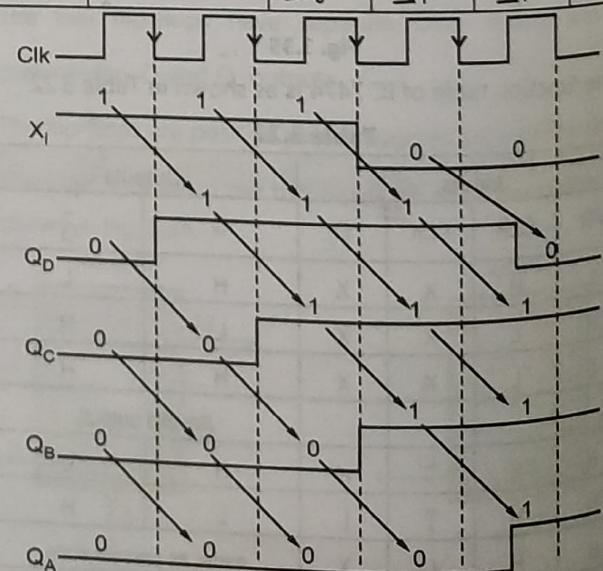

Fig. 3.39
- Let us consider the data 0111 is applied to the input. How the data was entered in shift register is given in Table 3.24 and waveforms of shift register for serial input are shown in Fig. 3.39.